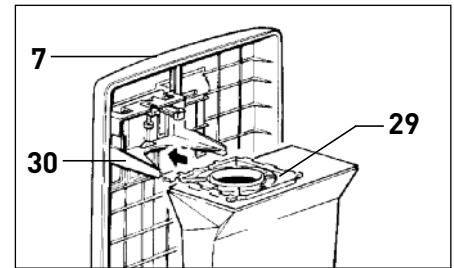

Figure 9
Changing the Dust Bag - Figure 9
2. Bag not inserted properly.	2. Reinsert bag with cover release flap (5) up, until firmly latched in bag holder (see pg. 9, figure 9).